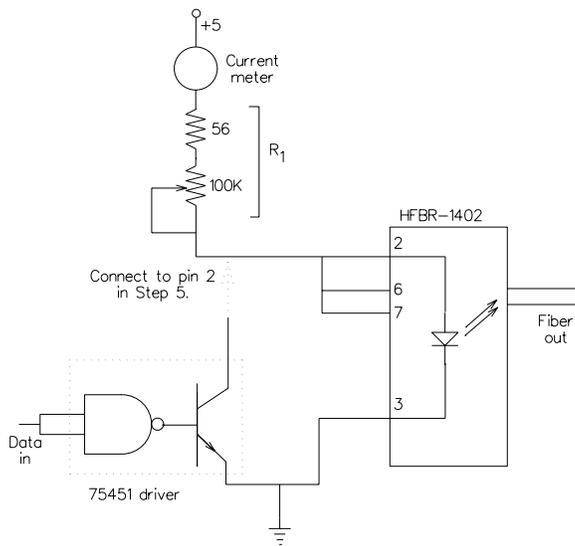

Figure 2: Transmitter circuit.
Figure 2 shows the transmitter circuit. (The current meter is omitted.) The LED is driven by a current from the supply when the transistor switch is OFF. The transistor switch bypasses the LED when the switch is ON. (In this way the current drawn from the supply stays constant.)
1. Ensure that the system is set up as in Fig. 2. Check all meter and test settings.